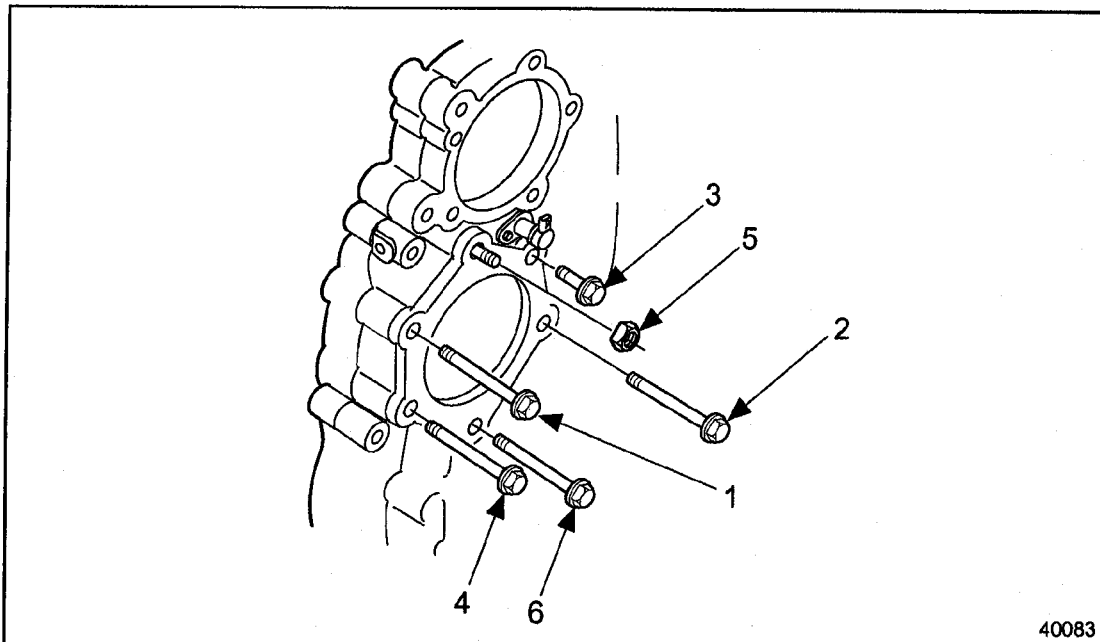

Figure 10-6 Bolt Torque Sequence
4. For torquing sequence, see Figure 10-6. Use compressor wrench J 35948 to torque the upper inside bolt. Using the bolt and nut torquing sequence, torque five bolts and one nut to 58–73 N·m (43–54 lb-ft).